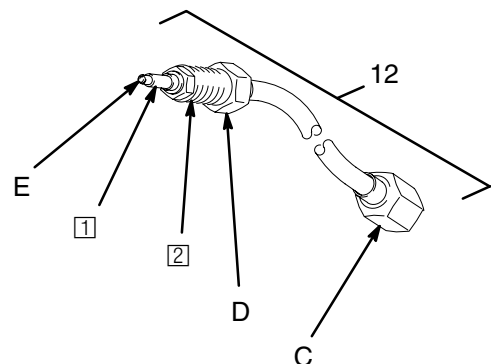

Fig. 11
Be careful not to damage the fluid tube assembly (12) when cleaning or installing it, especially the sealing surface (E). See Fig. 11. If the sealing surface is damaged, the entire fluid tube assembly must be replaced.
4. Apply grease, part no. 217115, to the entire length of the plastic extension on the end of the fluid tube (12). See **Accessories** to order the grease.
5. Apply a low strength thread sealer (such as purple Loctite®) to the fluid tube nut (D) threads.
6. Install the fluid tube into the gun barrel by tightening the top fluid tube nut (D) hand-tight, then turn it 1/4 to 1/2 turn with a wrench. There will be a gap between the nut and barrel. Do not over-tighten it.
7. Make sure the fluid filter (14) is in place in the fluid fitting (10). Then tighten the bottom fluid tube nut (C) onto the fluid fitting; make sure the top fluid tube nut (D) remains tightened.